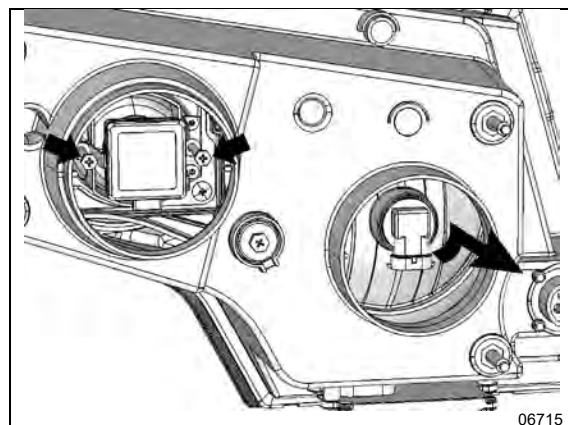

FIGURE 91: HEADLAMPS ASSEMBLY REAR VIEW
5. HALOGEN: turn the bulb base counterclockwise. XENON: Unscrew the Phillips head screws indicated by arrows, pull the retainer and bulb out (FIGURE 91).